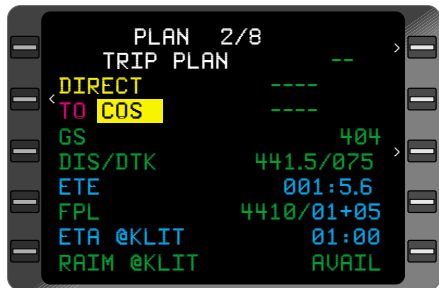

Figure 3-163
*NOTE: **ETA @ the destination** and **RAIM @ the destination** are displayed only when **DIRECT** legs are being viewed. (Figure 3-163)*
*NOTE: Information between any desired waypoints can be reviewed by selecting the **TRIP PLAN** Page and entering a **FROM** and **TO** waypoint (Figure 3-162) or performing the present position direct procedures (Figure 3-163). If the **TO** waypoint is not on the selected Flight Plan, the Flight Plan number and origin/destination fields will display dashes.*